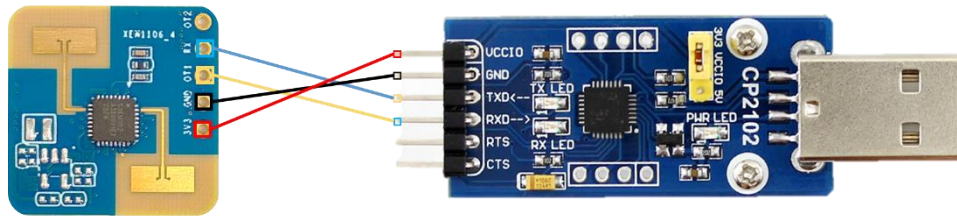

Figure 4-1 Connection between hardware Xen106 and USB serial board
Step 1: Connect the sensor with the host PC using a USB-TTL serial transfer board; the connection of pins is listed in Table 4-1 and illustrated in Figure 4-1.
Step 2: Connect the XenD106L sensor to the host PC according to Figure 4-1.